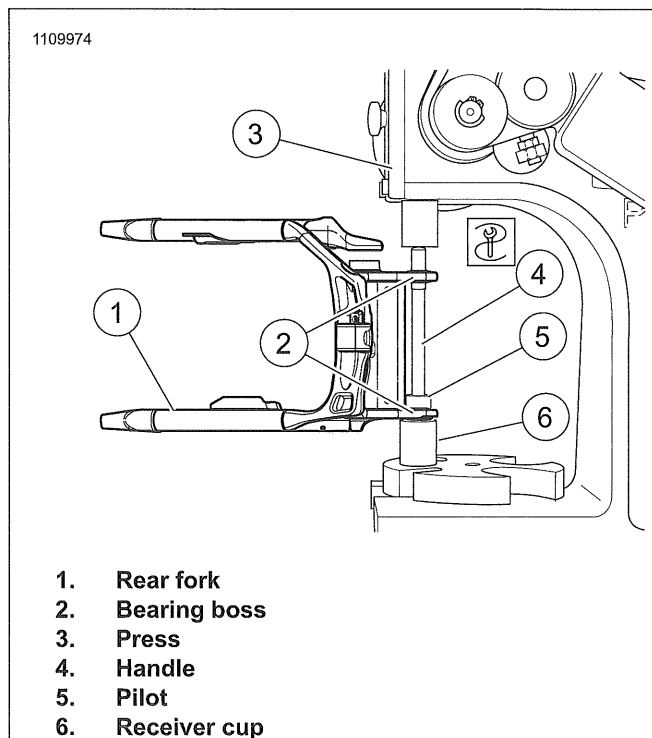

Figure 3-84. Removing Rear Fork Bearings
- See Figure 3-84. Remove bearings from rear fork using.